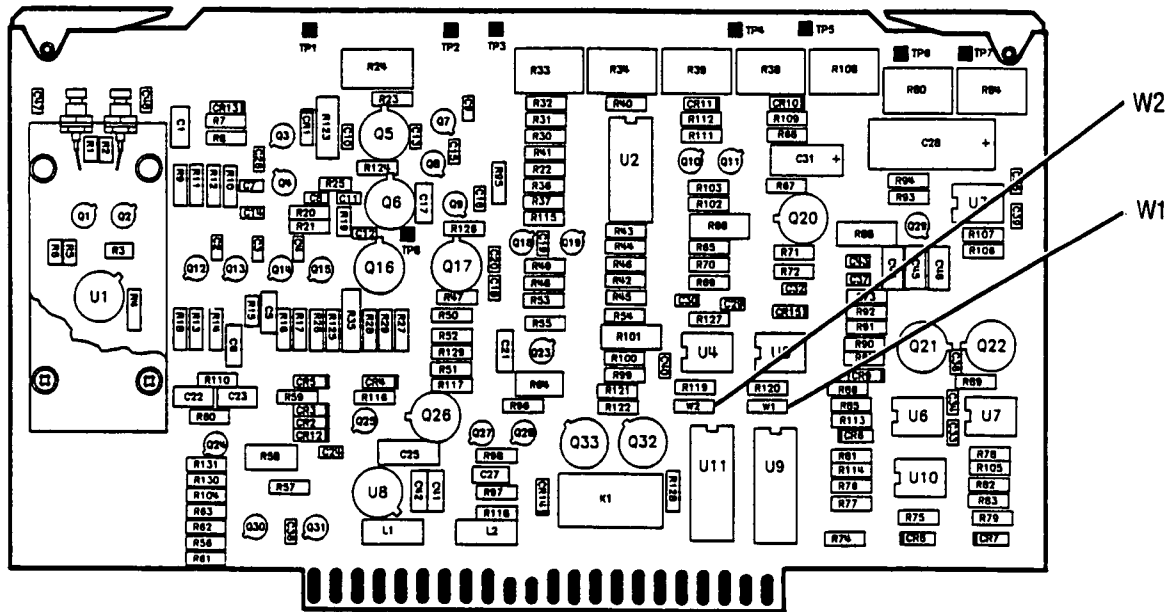

Figure 5. Location of W1 & W2 on the A25 ALC Detector
28. Refer to Figure 5. Insert a jumper wire (W1, provided in this package) into location A25W1 and solder into place. Remove the A25W2 jumper wire. Reinsert the A25 assembly.